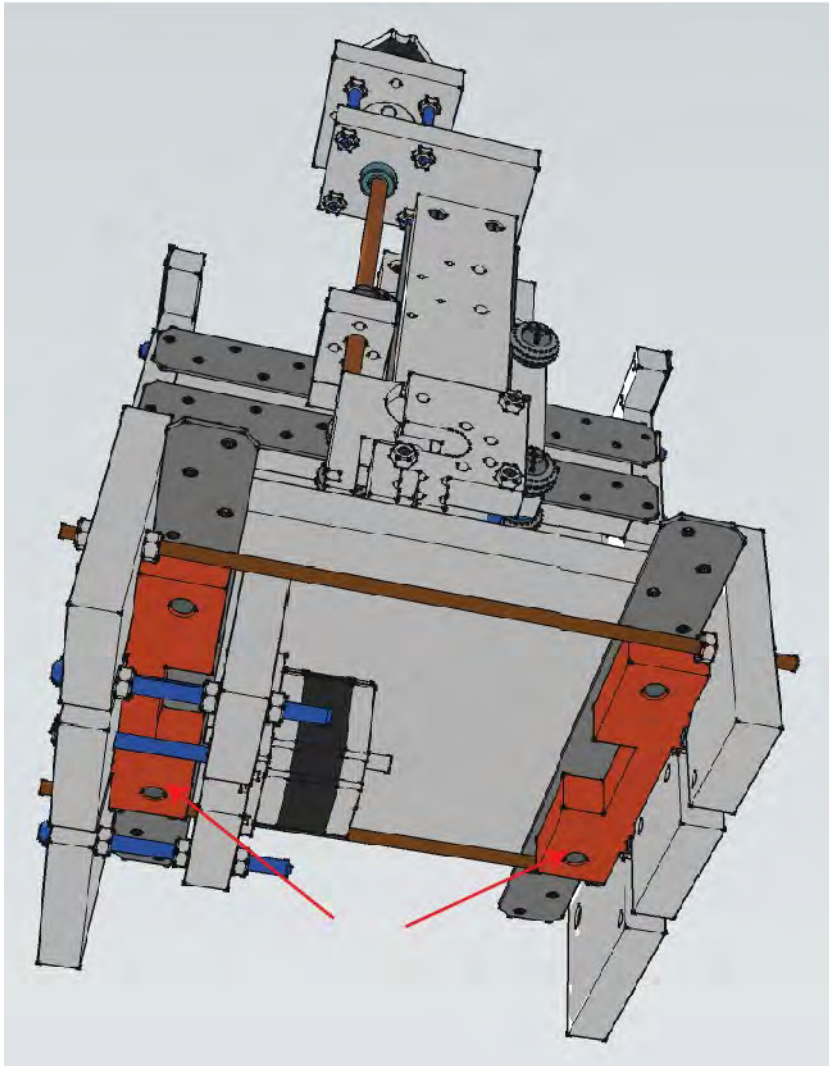

Figure 5-4. Part I and J allow the Table (Part C) to move forward and backward.
Figure 5-4 shows the location of the Table Bearing Supports. Parts I and J allow the Table (Part C) to move back and forth. The Table contains a set of rails that will move back and forth between Parts I and J (one on each side of the table). This will be possible since the Parts I and J will contain v-groove bearings that keep the table rails moving along a single path.
■ **Note** You'll noticed two long threaded rods in Figure 5-4 (a threaded rod is a continuous rod that is threaded like a screw). The threaded rods keep the bearings tight against the table rails when the rod is snugly tensioned (more on using tension rods in Chapter 13).